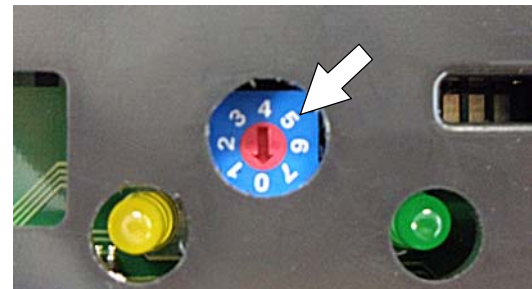

FIG. 78
3. Using a small standard screwdriver, turn the dial to the appropriate battery type according to the following chart (Figure 78).